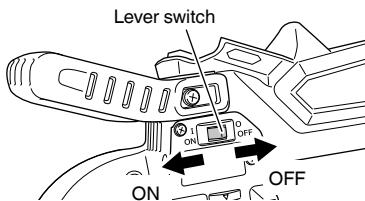

Fig. 6
(1) Check that the band saw stand is correctly secured, and that the lever switch is in the OFF position. (Fig. 6)